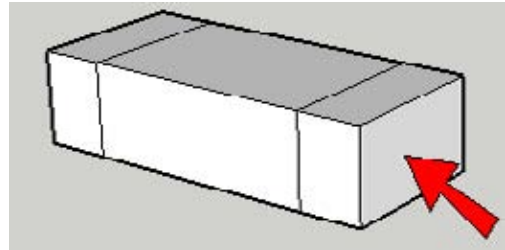

Figure 2-82
2. Using Push/Pull with Ctrl/Option again, double-click the other side of the box to pull out an identical box (Figure 2-82).